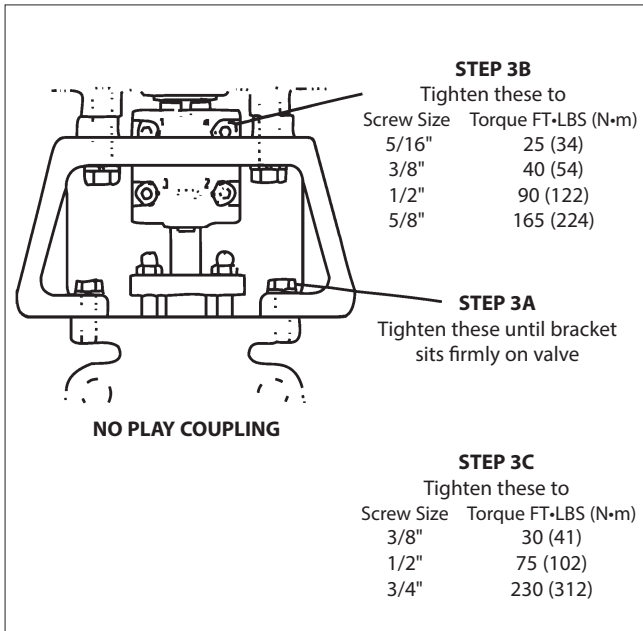

Figure 15.
4. Lower actuator and bracket onto valve while engaging actuator stem driver into coupling. Tighten screws just enough to firmly mate bracket to valve. This should allow bracket to shift, allowing the coupling to align the valve and actuator shafts **(See Figure 15, Step 3A)**.
5. Tighten the no-play coupling screws to torques shown in **(Figure 15, Step 3B)**. Use alternating sequence shown.
7. Fully tighten the screws holding the bracket to the valve, as shown in **(Figure 15, Step 3C)**.